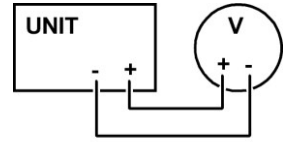

fig. 1
1. Connect the voltmeter to output terminals (see fig.1).